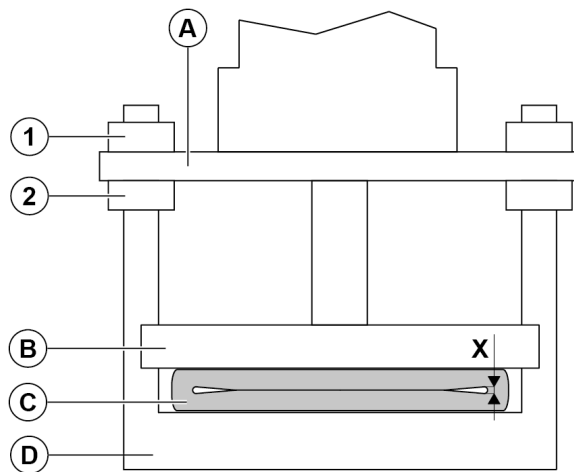

Figure 16.
6. Wrenching the rest of the sleeve through the flange with a pry bar / bending iron (*see Figure 16*).